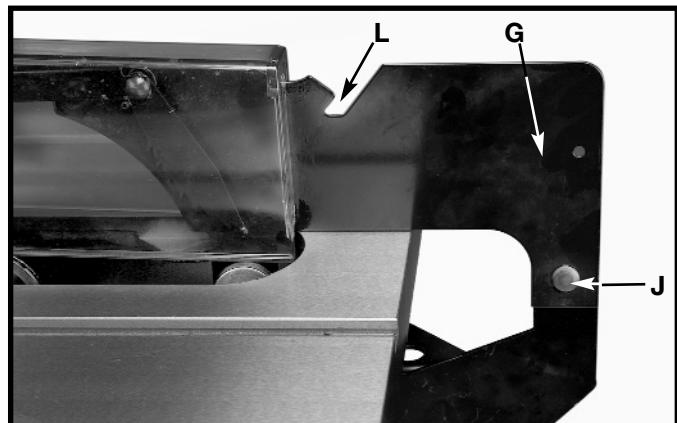
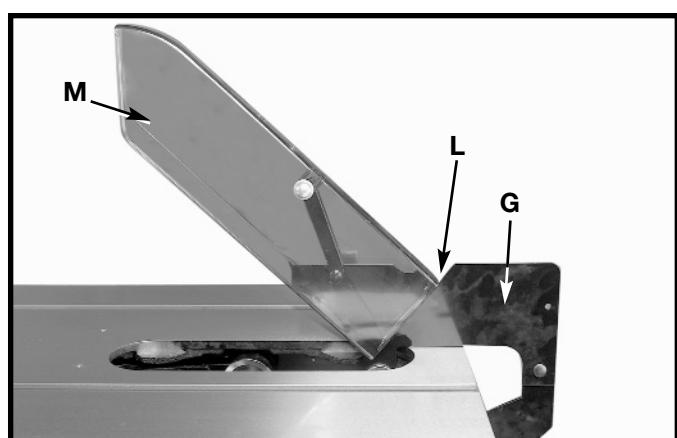

Fig. 20
Fig. 21
- Fasten the rear of the blade guard and splitter bracket assembly (G) Fig. 20, to the rear splitter mounting bracket using 5/16-18 x 5/8" carriage bolt (J), 5/16" flat washer and 5/16-18 hex nut. Align the hole in the rear of the blade guard with the hole in the splitter bracket. Insert the 5/16-18x5/8" carriage bolt through the holes. Place flat washer onto the bolt, then place nut on bolt and tighten.
**IMPORTANT:** The splitter (G) Fig. 20, has a notch (L) cut in the top edge. This feature will enable the blade guard to stay in the raised position when the table insert is removed to make blade changing easier. Raise the front of blade guard (M) Fig. 21, until the rear edge of the blade guard slips into notch (L) of splitter (G); the blade guard will stay in this position.